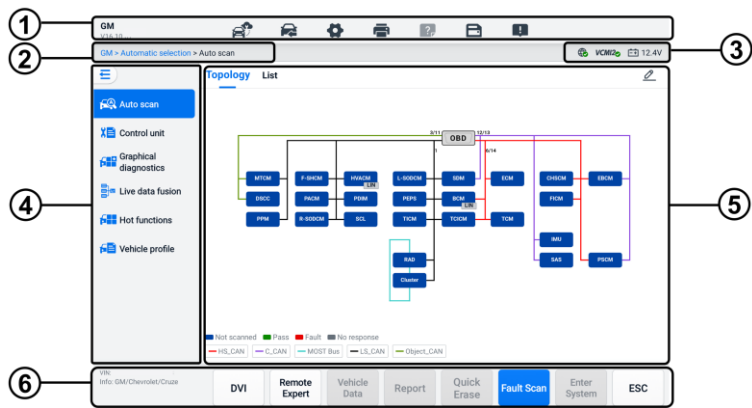

Figure 6-8 Diagnostics Main Menu Screen
The Main Menu screen (see Figure 6-8 Diagnostics Main Menu Screen) navigates users to perform read codes, clear codes, or perform comprehensive automotive diagnostic functions, and so on. After the function is selected, the tablet will establish a communication with the vehicle through the VCMII2, and enter the corresponding function menu or selection menu based on your selection.
1. Tap the **Diagnostics** application button on the MaxiSys Job Menu. Choose the corresponding vehicle information and enter the Main Menu screen (see Figure 6-8 Diagnostics Main Menu Screen).